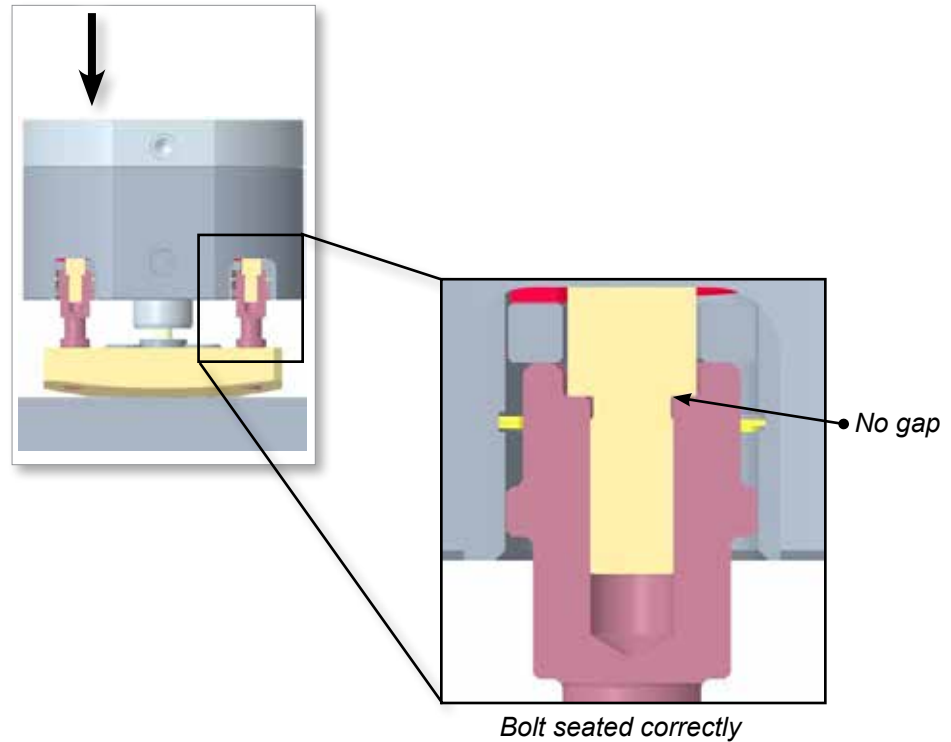

Figure 5-13 Screw shoulder bolts into support pillar
6. Screw the bolts onto the support pillars through the cylinder body. See Figure 5-13.
Ensure the bolts are fully seated in the support pillars. See Figure 5-13.